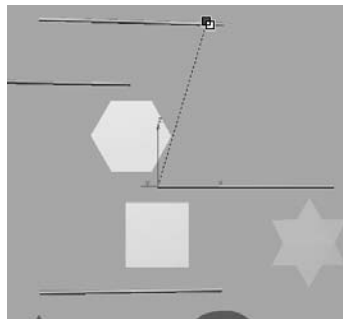

Figure 2.39
- c. Link from the bar above the star and square to the top bar, as shown in Figure 2.39.